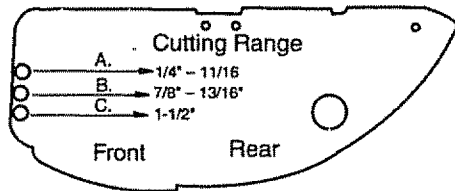
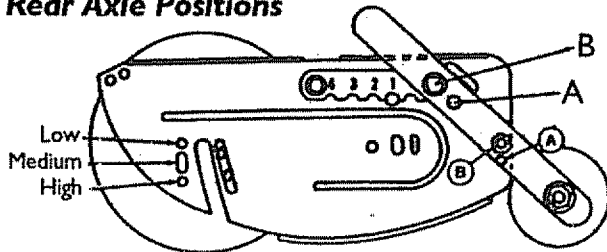
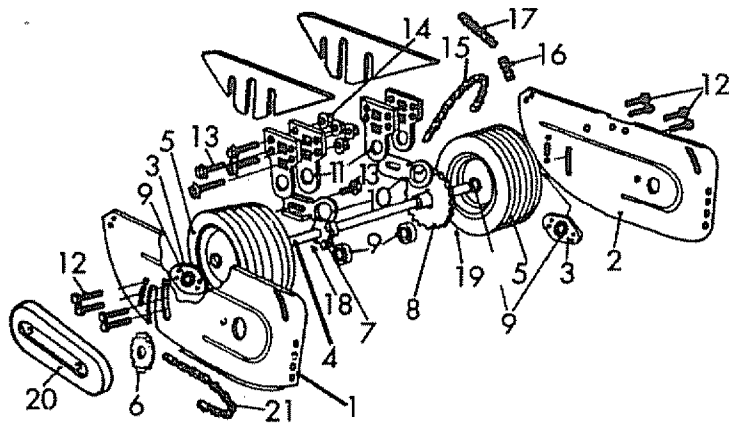

Figure 13
Figure 14
Figure 14A
The cutting height is adjustable from 1/4" x 1-1/2". The front wheel assembly bar may be moved in 3-holes on the side panels to adjust the height. (Refer to FIG. 13) The two top cutting height adjustment holes, A & B are used for all height adjustments except for the 1-1/2" height. Hole C is only used for the 1-1/2" adjustment.
Lift lever as shown (Fig 14) and adjust height by repositioning notched bracket.
When using A or B hole in the side panel (Fig.13) the notched lever (Fig. 14) must be changed to A or B hole also. When using the C hole in the side panel, place the notched adjusting lever in the B hole.
The mower is shipped with axle in the middle position and the cutting heights listed above are achieved with the axle in this position. The rear axle must be lowered to the high position (Fig. 14) to achieve the 1-1/2" cutting height.
2. Refer to Fig. 14A
- C. Remove clutch drive chain—No.15 and add (2) chain links. They can be purchased from the factory or McLane Service Center. Part No. 5016
- D. Remove (8) retainer bolts—No.12
- E. Loosen (8) hanger bolts—No. 13
3. Move Axle outward until retainer bolt hole aligns with the high hole in the side plate. (Fig. 14)
4. Replace and tighten (8) retainer bolts.
5. Tighten (8) hanger bolts.
**CAUTION:** To avoid possible damage to front wheels do not start mower before setting height adjustment. Notched height bracket at right front of mower (Fig. 14) must be placed at desired cutting height position.